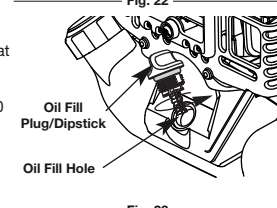

Fig. 23
6. If the level is low, add a small amount of oil to the oil fill hole and recheck (Fig. 23). Repeat this procedure until the oil level reaches the top of the dipstick.